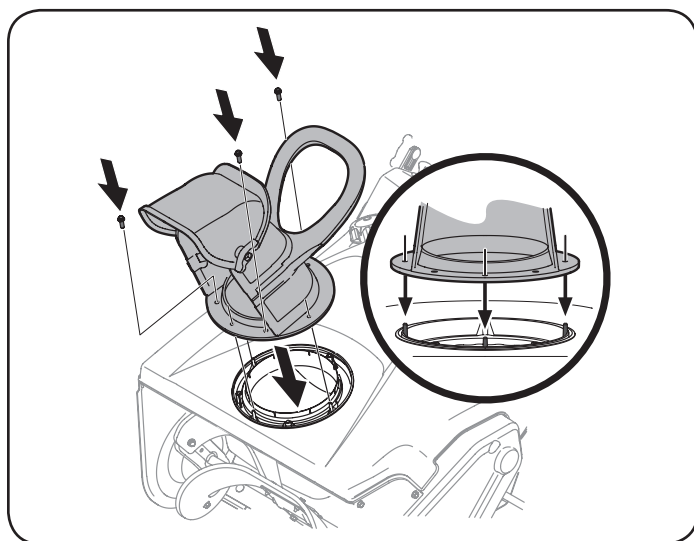

Figure 5
3. Align the holes in the chute base with the holes in the lower chute and secure with the previously removed screws. See Figure 5.